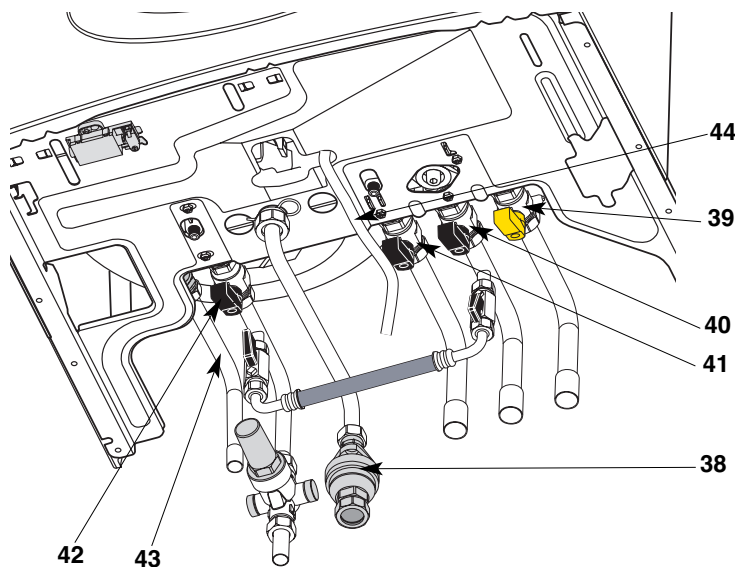

FIG. 10.2
10.6.2. Position the appliance on the hanging bracket and connect the connection kit to the boiler connections. (see also Sections 10.8 Gas Connections, 10.9 Water Connections & FIG.10.2).
The connection to the appliance is a 22 mm copper tail located at the rear of the gas service cock (Fig. 10.2).